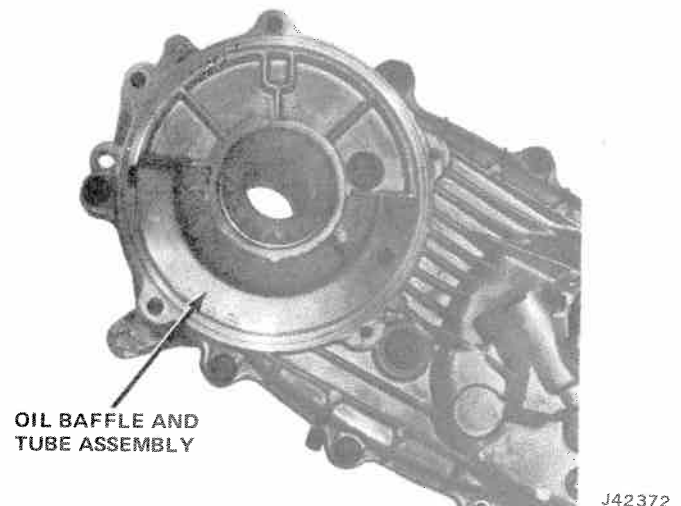
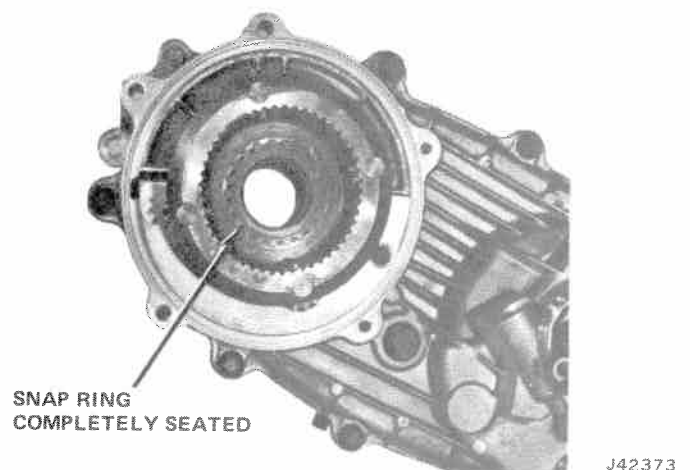

Fig 8-21 Reduction Oil Baffle and Tube Assembly Installed
Fig 8-22 Reduction Pinion Case Installed
- (1) If removed, place reduction oil baffle and tube assembly on rear of transfer case cover (fig. 8-21).
- (2) If removed, install pinion cage onto transfer case drive sprocket splines.
- (3) Install retaining snap ring. Be sure snap ring is seated completely in groove (fig. 8-22).